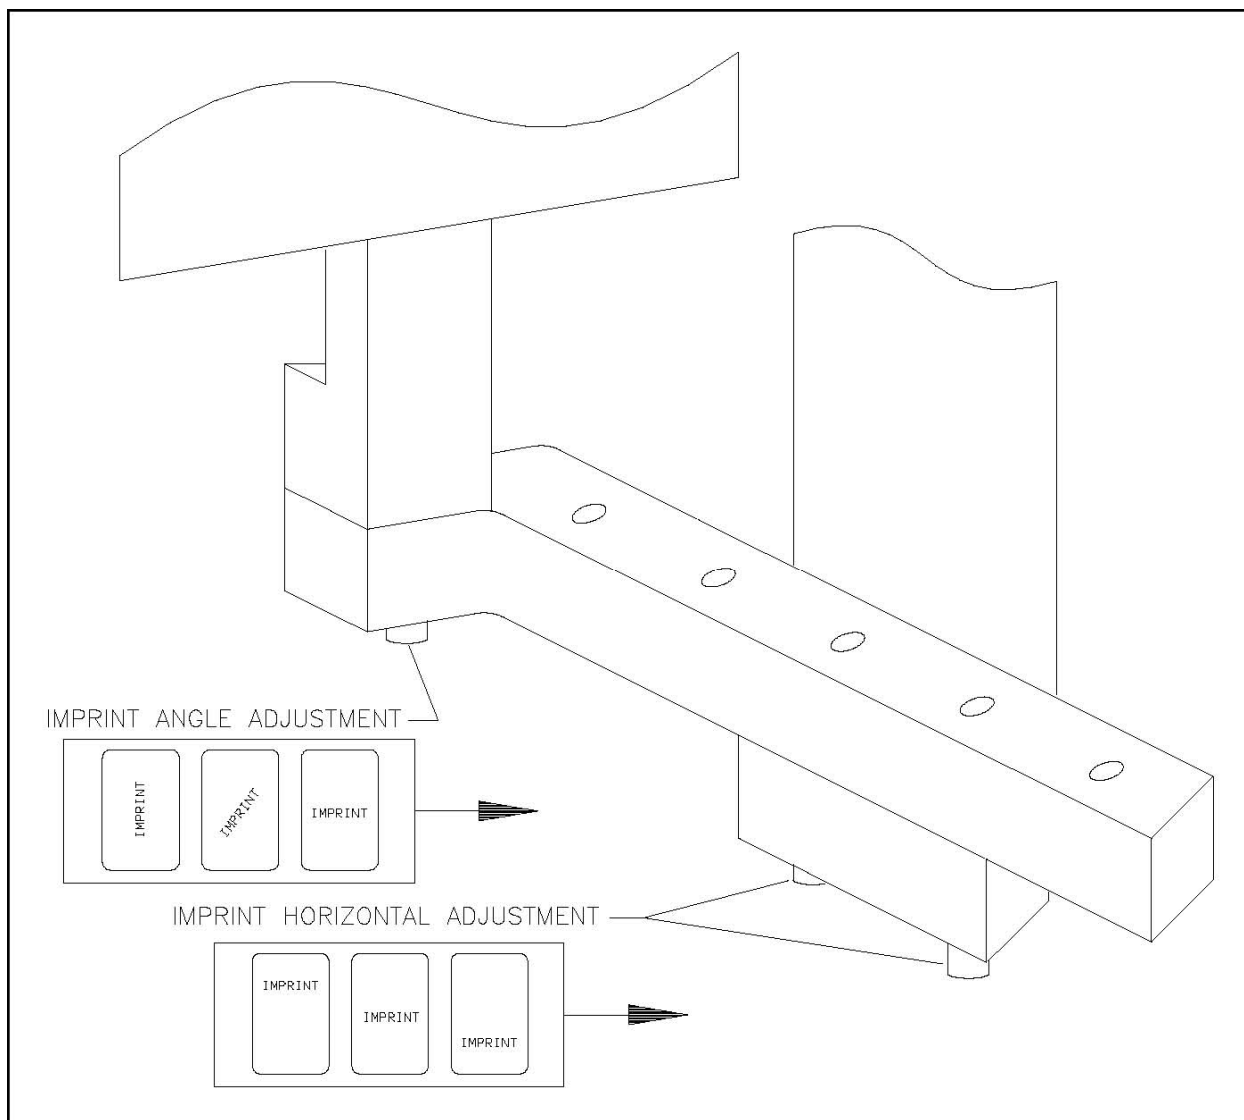

Figure 38 Imprinter Adjustment Brackets
3. Adjust the position of the imprint across the web by moving the position of the entire imprinter. See Figure 38.